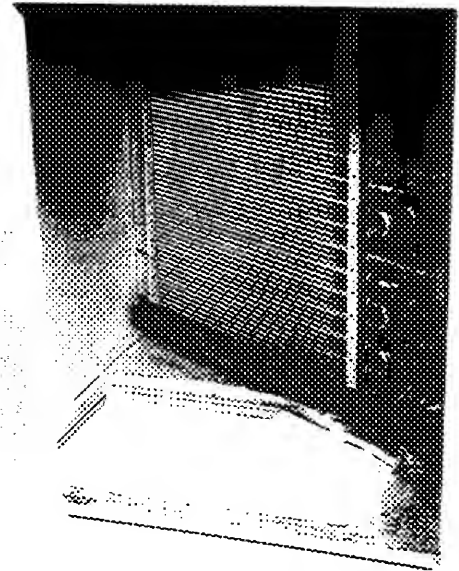

Fig. 18 – Vertical Duct Cover Removed
4. Using a straight edge and shop knife, cut and remove the insulation around the perimeter of the cover. Remove and save 5 screws securing the cover to the basepan and slide out the cover. Discard the cover (Fig. 18).